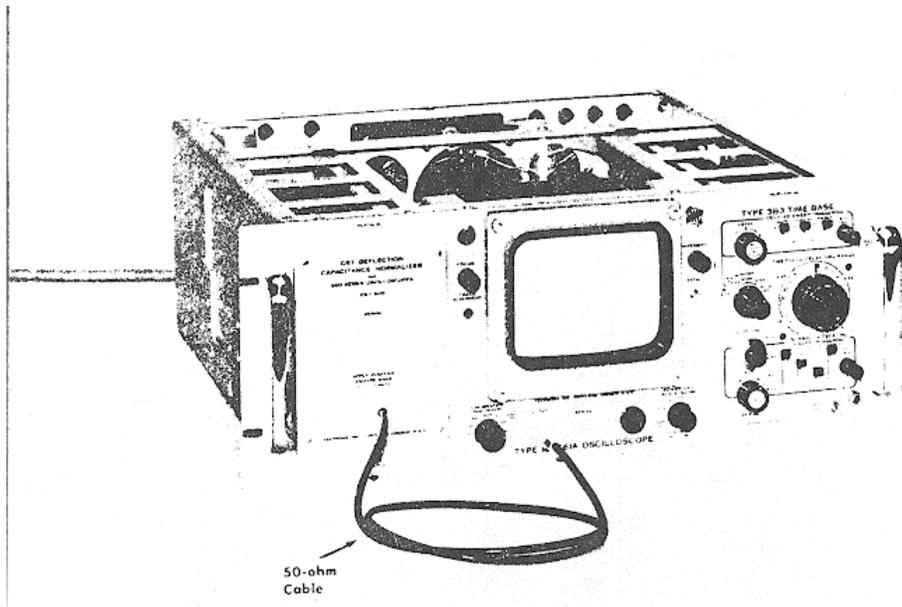

Fig. 6-17. Test equipment setup for vertical and horizontal compensation.
- Test equipment is shown in Fig. 6-17.